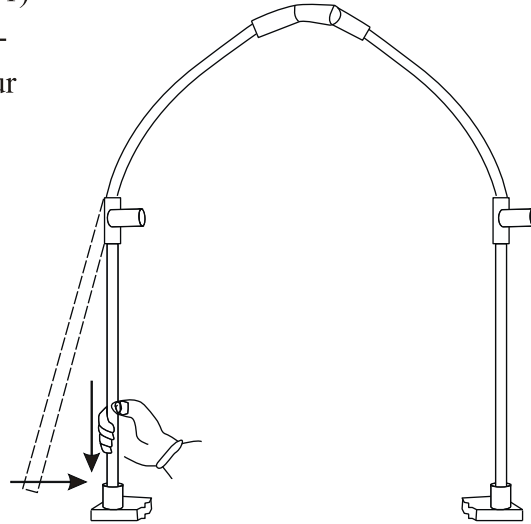

FIGURE 3
Step 1: Using the four Roof Tubes (#1) connect the two Bent 3-Way-In-1 Fittings (#2) and the four Straight 3-Way-In-1 Fittings (#4) to each other. Insert the Vertical Tubes (#7) into the four Straight 3-Way-In-1 Fittings (#4) as shown in Figure 3.
Then See Figure 3.